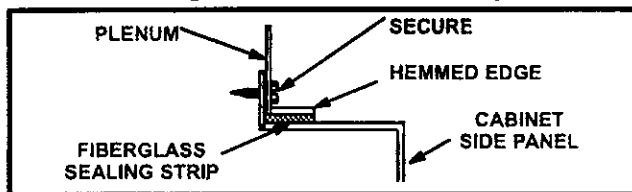

FIGURE 13
- 1 - Flange bottom edge of plenum with a hemmed edge. See figure 13.
- 3 - In all cases, secure the plenum to the top flanges of the furnace using sheet metal screws. See figure 13.